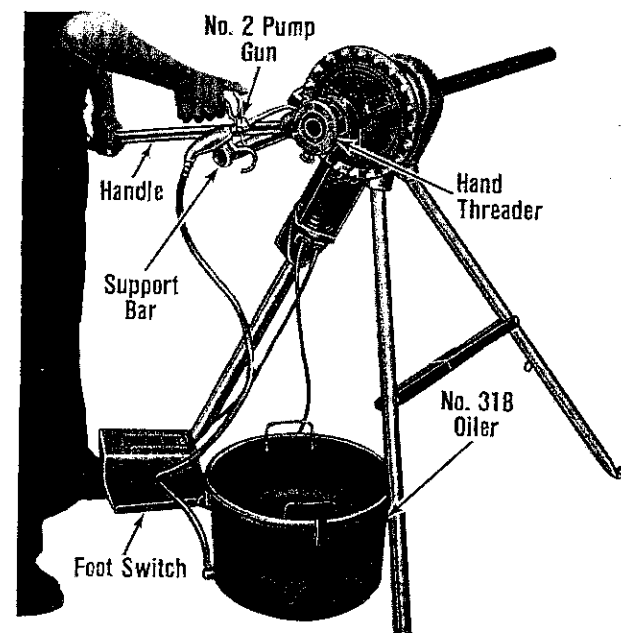

Figure 10. Oiling Threader Dies.
2. Place No. 318 Oiler (Fig. 10) under Threader and apply RIDGID Thread Cutting Oil on pipe end.
- Note:** Threader is self-feeding once Dies are engaged. Apply plenty of oil (Fig. 10) until threads are completed. (Fig. 21)